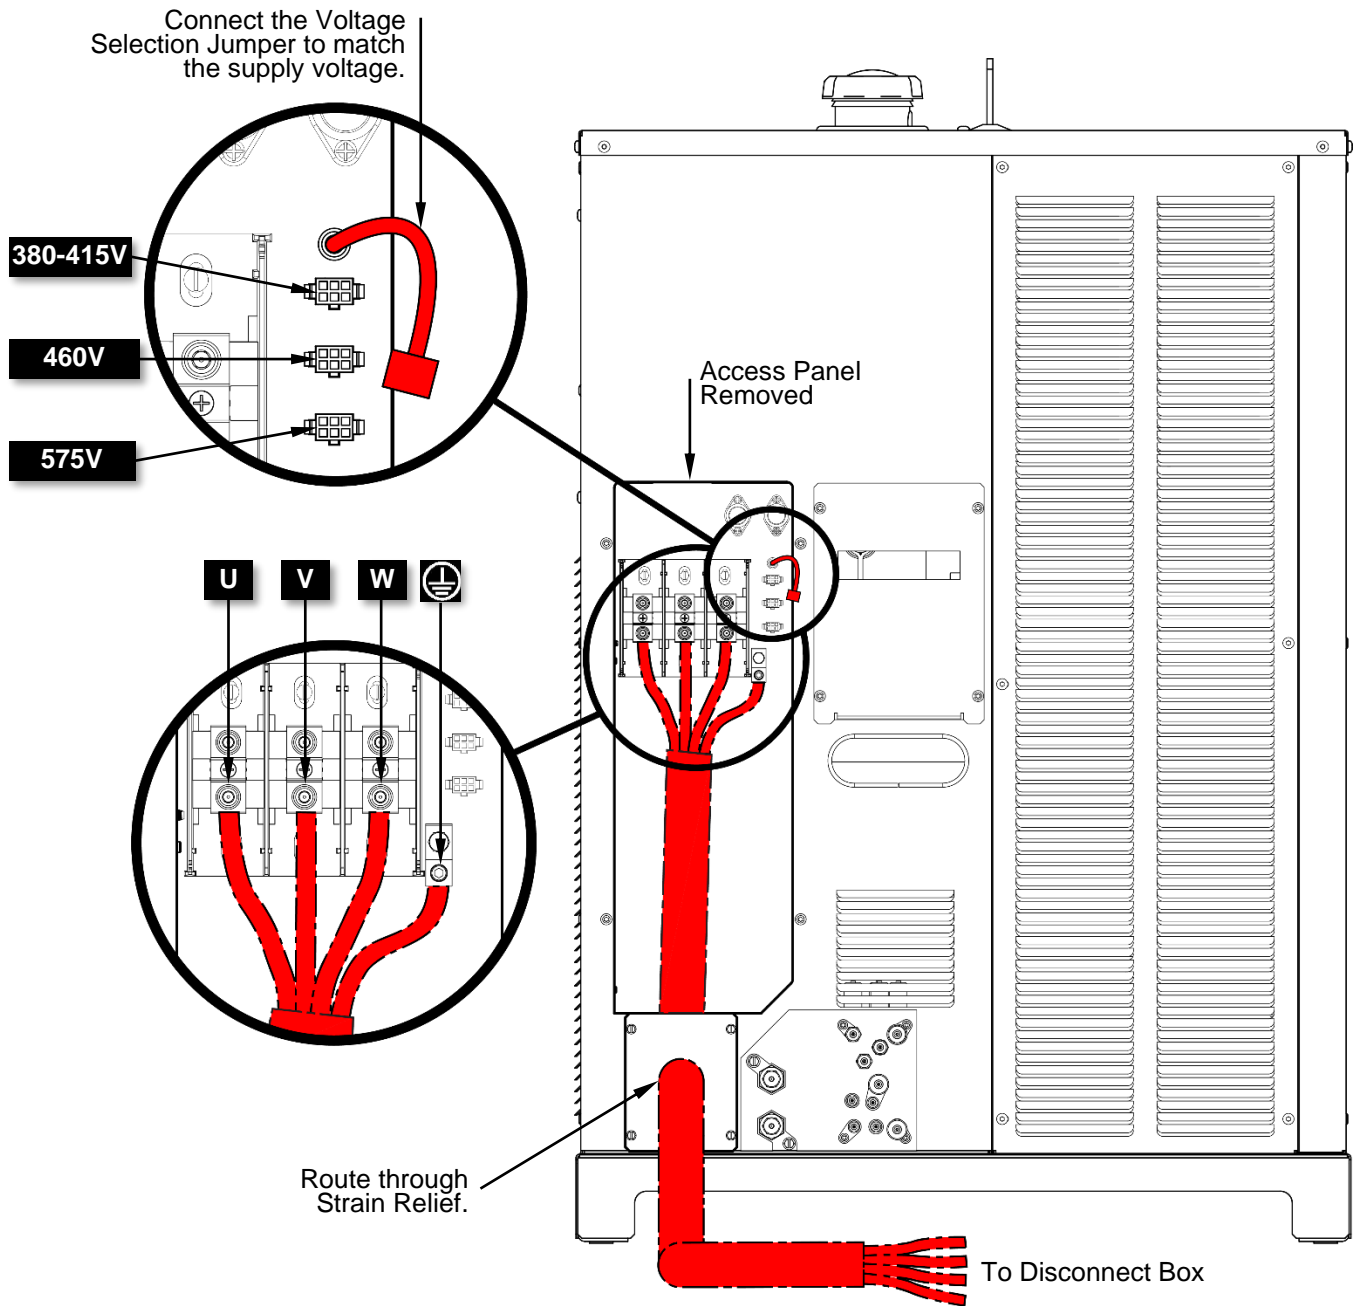
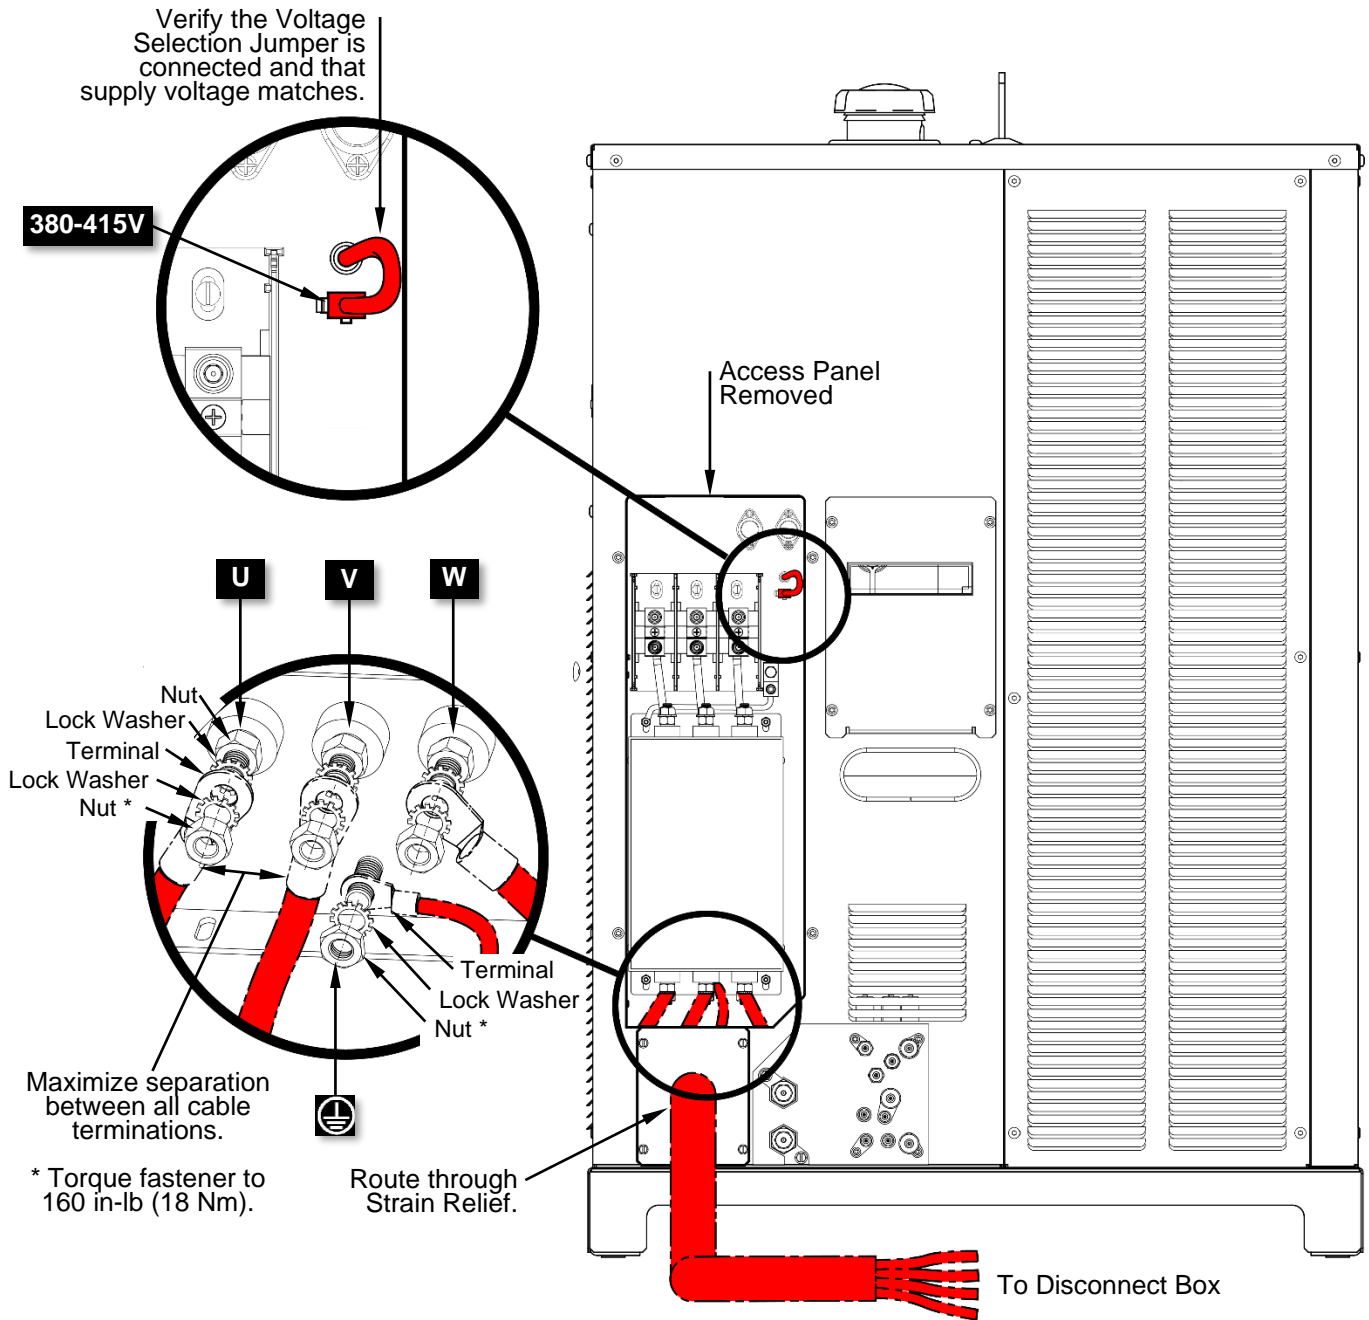

Figure 3: K4910-1 Primary Power Connections
Figure 4: K4910-2 Primary Power Connections
Remove the access panel as shown in Figure 3 or Figure 4; replace when installation is complete.
- 1) For Power Supply model K4910-1, set the voltage selection jumper to match the actual supply voltage; refer to Figure 3. Model K4910-2 only has one available voltage selection and the jumper is set at the factory; refer to Figure 4.
- 2) Supply cables and terminations are provided by the OEM or end user. Route flexible supply cables through the strain relief on the back of the Power Supply and connect as shown in Figure 3 or Figure 4. For supply cables through conduit, install the conduit in place of the strain relief and connect supply cables as described above. Under no circumstances are the supply cables to be routed through the opening in the Power Supply cabinet without conduit or an appropriate strain relief as per local and national codes.